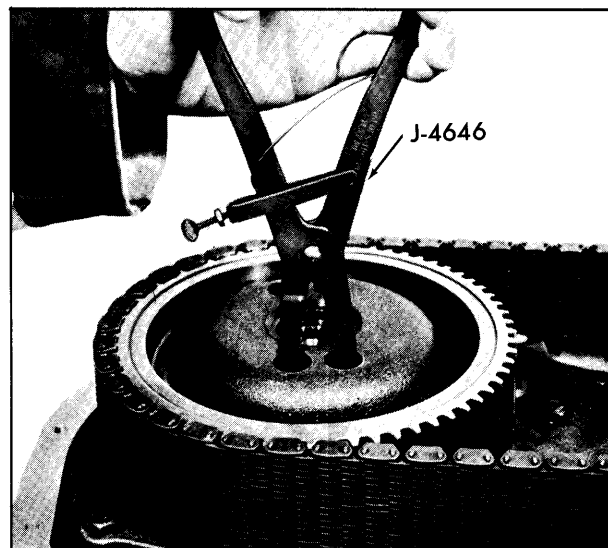

Fig. 7E-55 Removing Retaining Rings
19. Remove parking pawl shaft retaining pin from case and pull straight out. (Fig. 7E-52)
20. Remove parking pawl shaft, parking pawl, and return spring from case. (Fig. 7E-53)